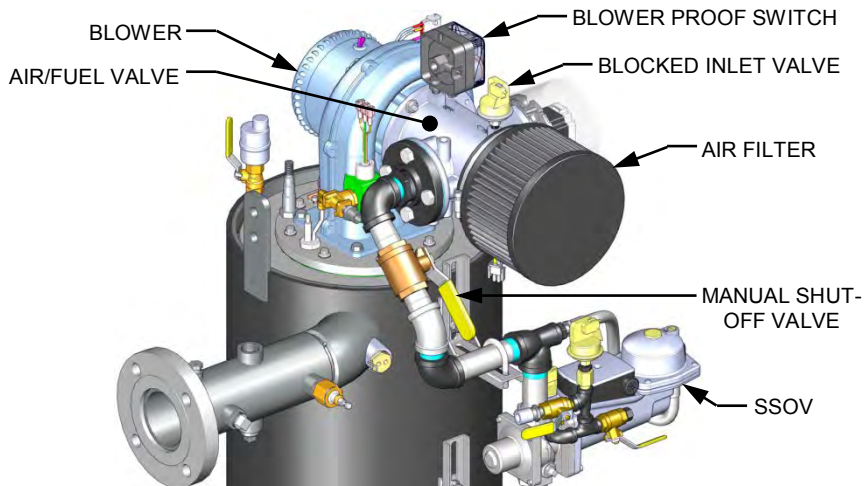

Figure 6-3: Bare Boiler – Partial View
3. Close the manual gas shutoff valve located between the Safety Shut-Off Valve (SSOV) and the Air/Fuel Valve (see Figure 6-3).
8. Once flame is proven, close the manual gas valve located between the SSOV (Figure 6-3) and the Air/Fuel Valve.
These tests check the operation of the **Blower Proof** switch and **Blocked Inlet** switch shown in Figure 6-3.
3. Refer to Figure 6-3 and locate the SSOV.